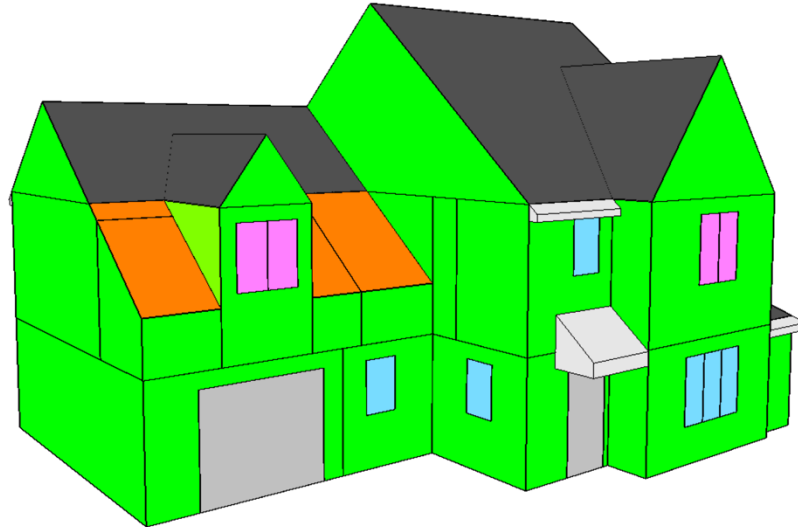

Figure 1: Front elevation to type C1 showing solar glazing
10. See Figures 1 & 2 for locations for glazing.
What is the overall overheating strategy (i.e. what design features are key to the project passing)?	1. Ensure adequate opening casement for natural ventilation complies with Part F. 2. Ground floor windows open by 70 degrees. 3. Upper floor windows open to a depth of 650mm from inside face of external wall. 4. Upper floor window sills modelled as being 1000mm from finished floor level. If not achieved, then they will need internal guarding to 1000mm from FFL. 5. Bedroom windows modelled closed at night due to external noise issues. 6. Continuous ventilation to achieve up to 0.45 air changes per hour. 7. Window Glazing 'g' value at 0.66. 8. Rear rooflight glazing 'g' value = 0.45. 9. Bedroom glazing 'g' value = 0.50. 10. See Figures 1 & 2 for locations for glazing. 11. Mechanical purge ventilation required to rooms and rates as set out in table 3 at the back of this report. Noise limit for purge fan to be maximum 40 dB.